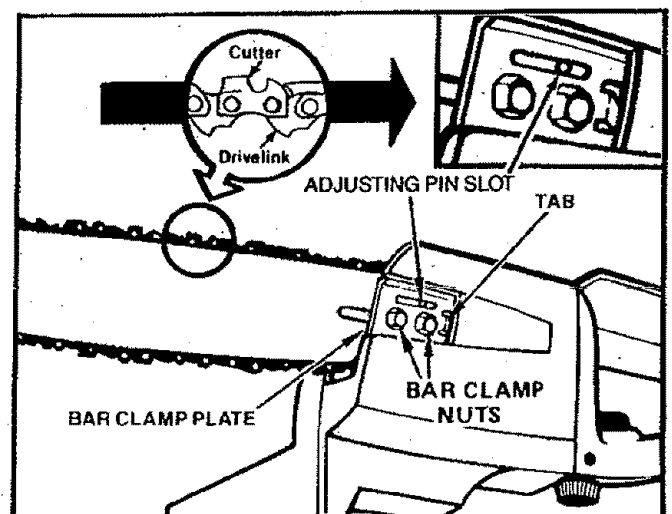

Figure 12
2. Remove the Bar Clamp Nuts & Bar Clamp Plate. Figure 12.
7. Slide the bar forward and fit the adjusting pin into the round hole in the Guide Bar. Figure 12 (inset).
8. Hold the Guide Bar against the saw frame and install the Bar Clamp Plate. Be sure the tab on the Bar Plate is toward the rear of the Bar. Figure 12.